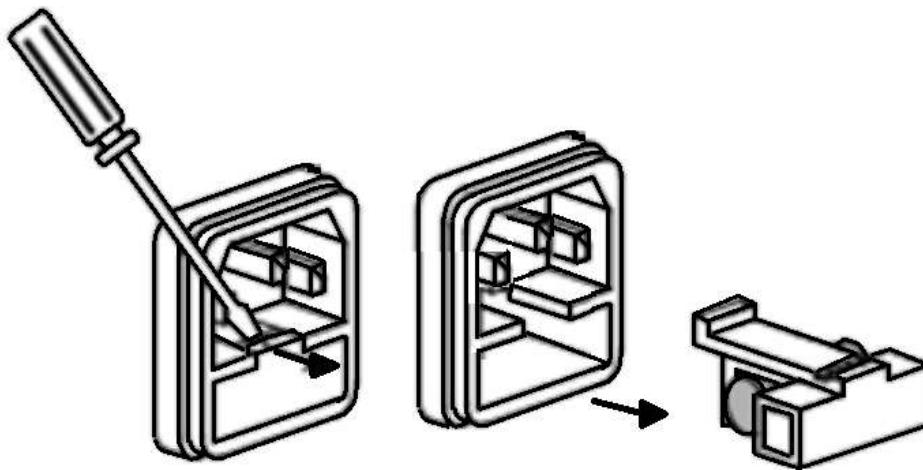

Figure 4.1 Fuse Removal
3. Check and replace fuse if necessary. (See figure 4.1)